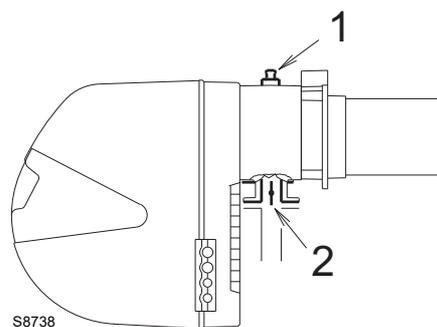

Fig. 27
Gas pressure measured at the test point 1)(Fig. 27), with:
Pressure loss at gas butterfly valve 2)(Fig. 27 at page 28) with maximum opening: 90°.
- Subtract the combustion chamber pressure from the gas pressure measured at test point 1)(Fig. 27 at page 28).
Gas pressure at test point 1)(Fig. 27) = 12.8 mbar
To know the required gas pressure at test point 1)(Fig. 27), set the maximum output required from the burner operation, then:
- Read, on the right (column 1) the socket pressure 1)(Fig. 27).
gas pressure at test point 1)(Fig. 27).